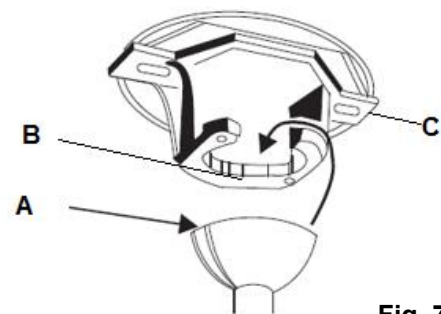

Fig. 7
Lift the fan assembly onto the mounting bracket. Ensure the key slot (A) of the hanger ball is positioned on the key pin (B) of the mounting bracket (C) to prevent the fan from rotating when in operation. **Fig.7**
1. Hang the complete fan assembly onto mounting bracket. **(Fig. 7)**